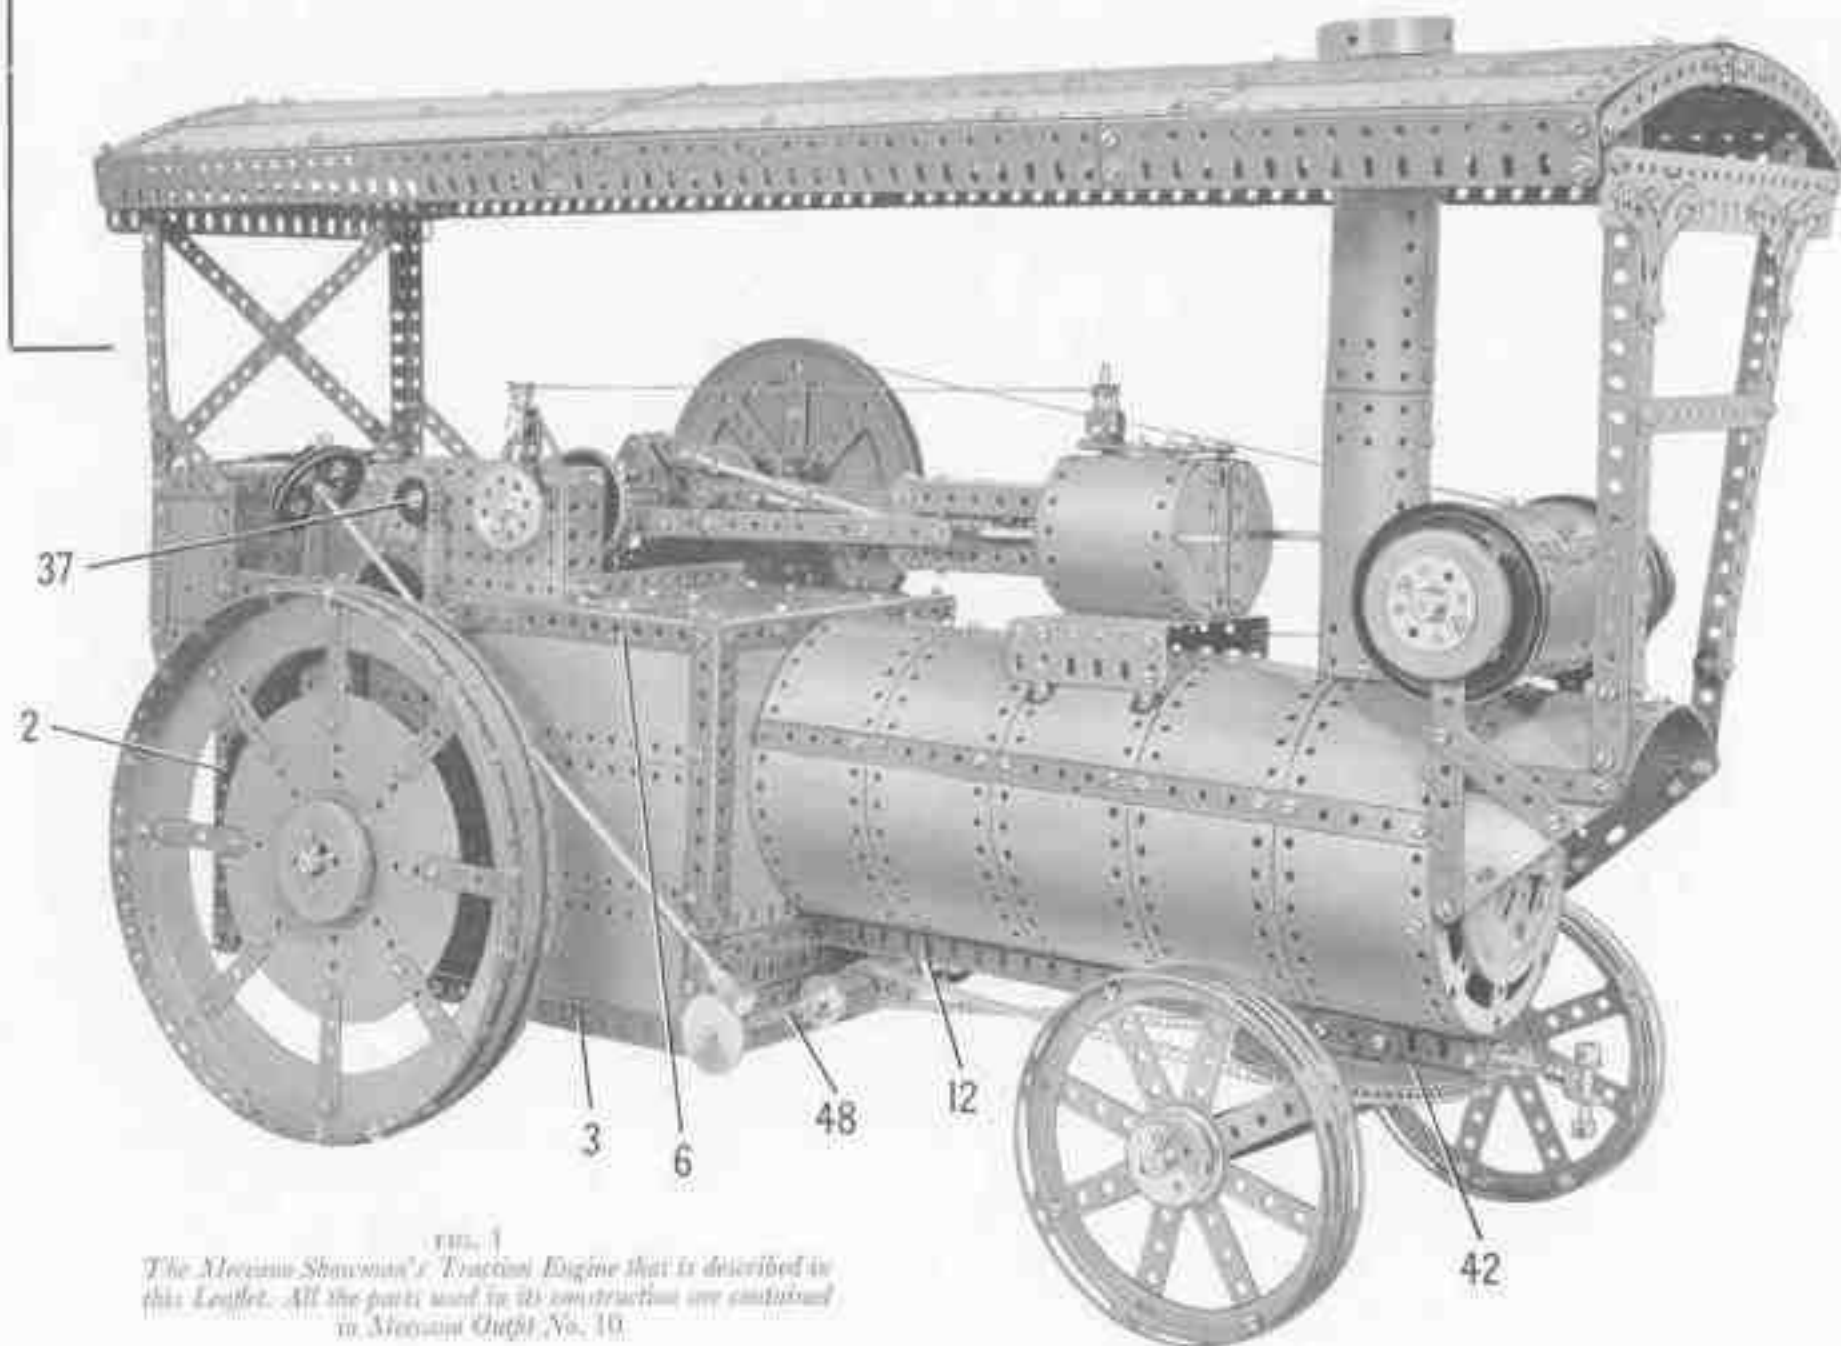
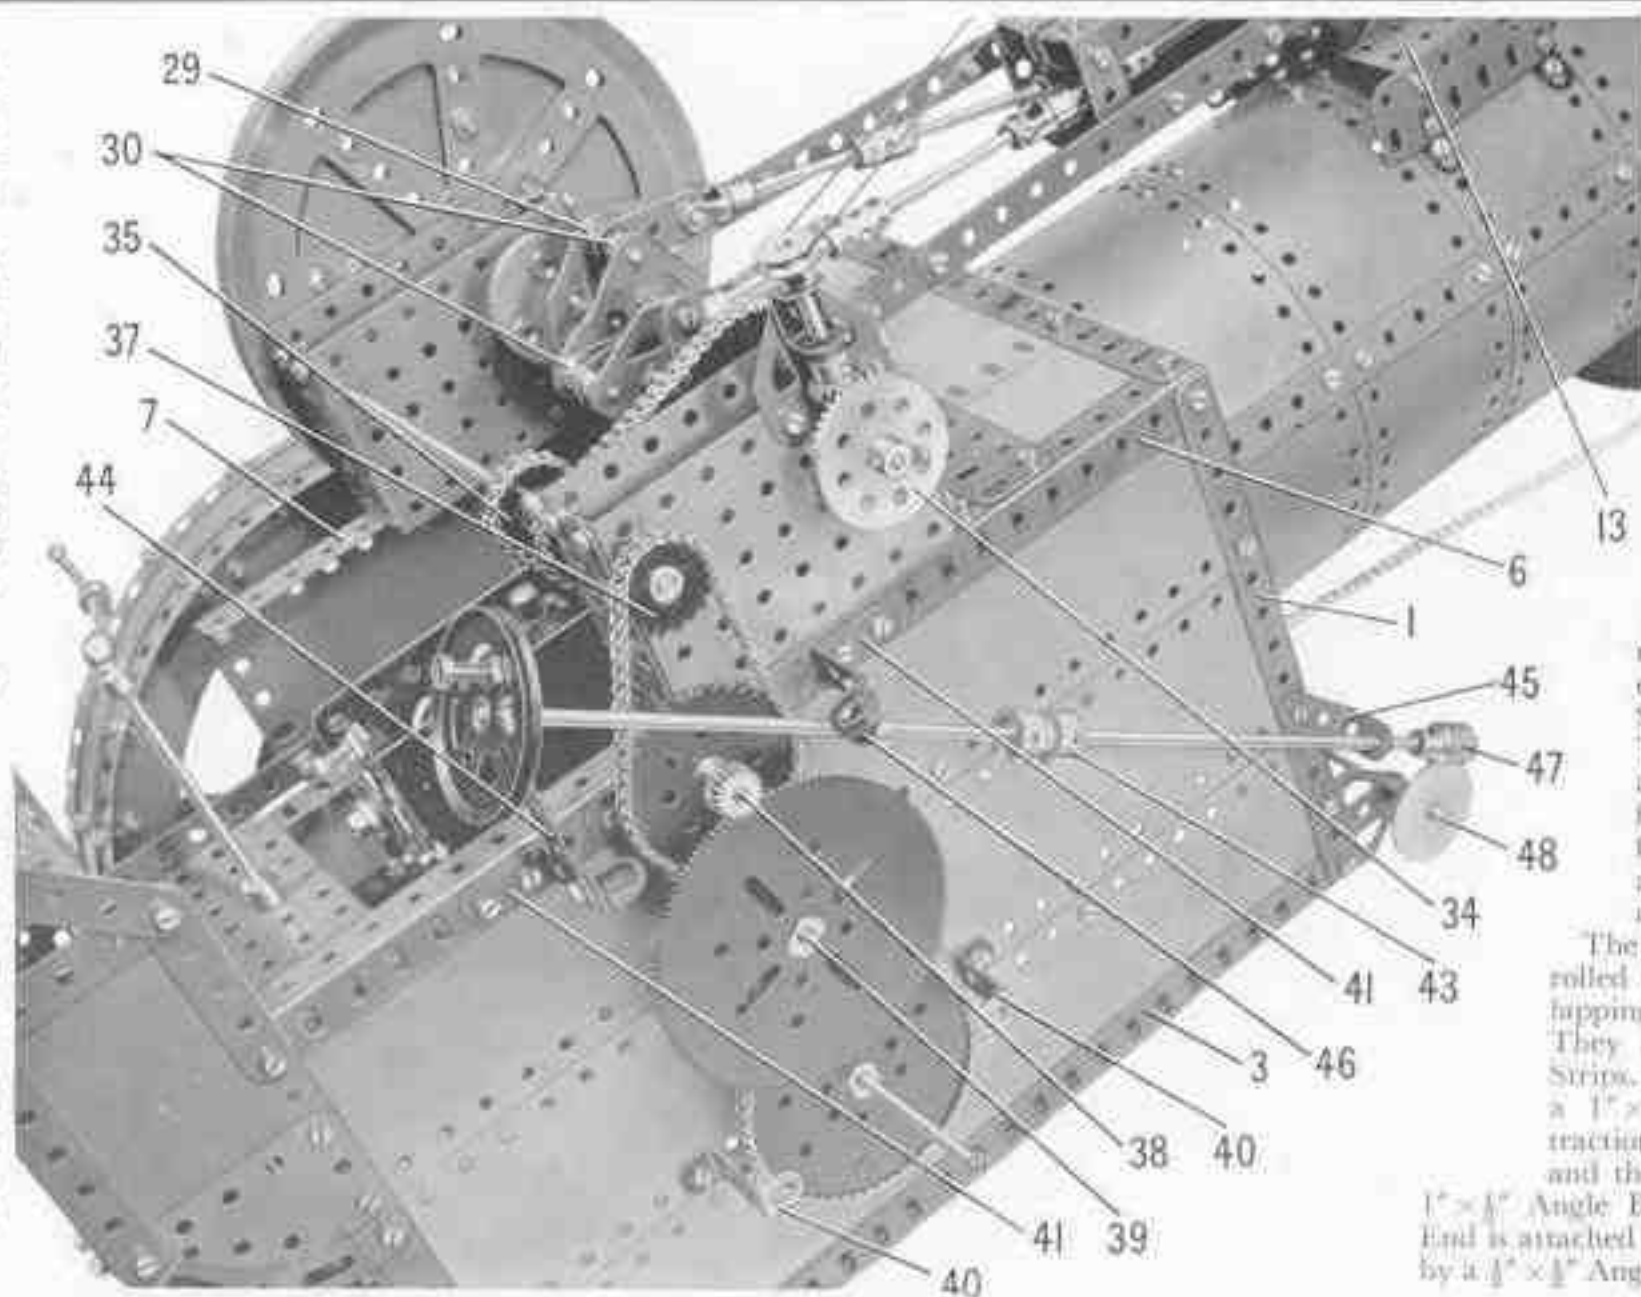

FIG. 1
FIG. 6. The off-side of the Traction Engine with the rear wheel removed to reveal the drive to the fan shaft
Construction of the Body and Coal Bunker (Figs. 1, 2, 4 and 6)
The Boiler (Figs. 1 and 2)
The Dynamo (Figs. 1 and 2)
The dynamo seen on top of the boiler at the front, is made by bolting two $4\frac{1}{2}$ " x $\frac{1}{2}$ " Double Angle Strips between two 3" Pulleys. Washers are placed between the lugs of the Double Angle Strips and the Pulleys, to allow two $5\frac{1}{2}$ " x $2\frac{1}{2}$ " Flexible Plates and two $1\frac{1}{4}$ " radius Curved Plates to be bolted in position as shown in Figs. 1 and 2.
Construction of the Canopy and Chimney (Figs. 1, 2 and 5)
The canopy is supported at the rear by two made-up angle girders bolted to 1½" Corner brackets (53) (Fig. 6) fixed to the body. Each of these girders consists of a 4½" and a 2" Angle Girder. The front supports are made from two built-up girders each consisting of a 9½" and a 7½" Strip joined by Angle Brackets. The lower ends of these girders are attached to Obtuse Angle Brackets fixed to the boiler cowl. The front and rear canopy supports are braced as shown in Figs. 1 and 2.